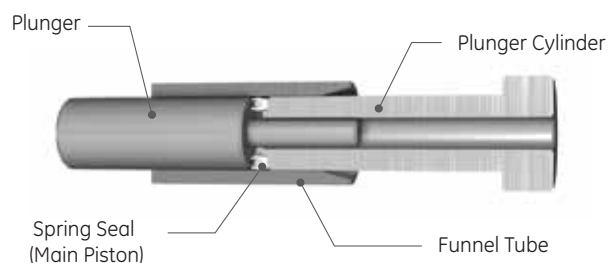

Figure 46: Funnel Tube
- iv. Insert Funnel Tube, chamfer side first, over the Plunger and Spring Seal (Adjuster Top). Stop when Spring Seal (Adjuster Top) is about half way inside the Funnel Tube as shown in Figure 46.